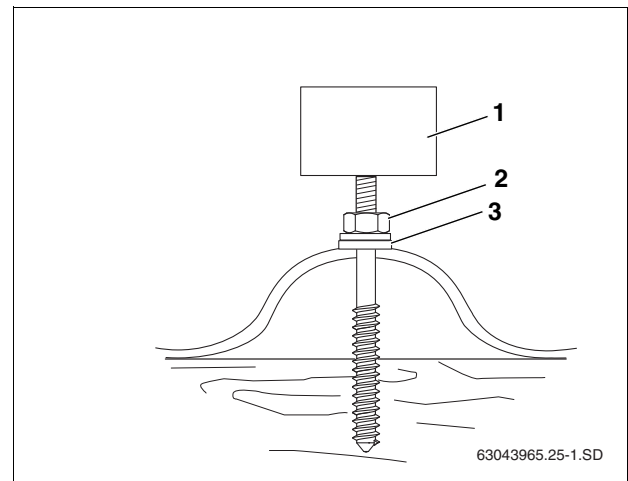

Fig. 21 Post screw installed to corrugated roof
- Tighten the nut (Fig. 21, [2]) so the gasket (Fig. 21, [3]) is pressed against the roof surface making a seal.
- Verify that the attachment block (Fig. 21, [1]) is screwed on tight and oriented horizontally.